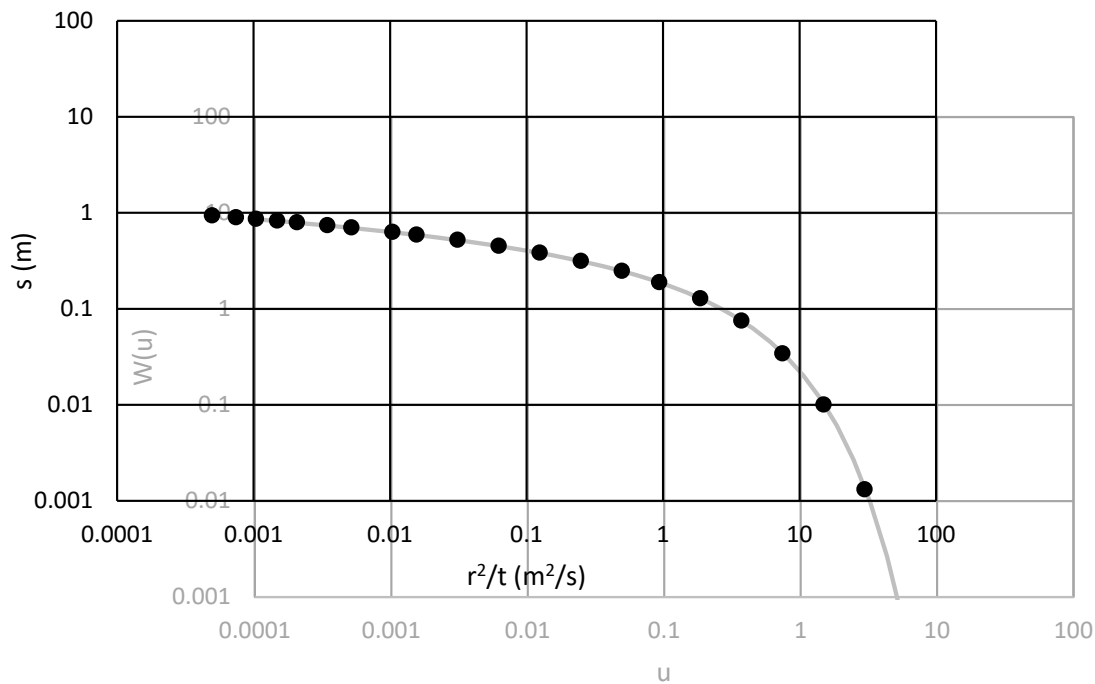

Figure 5: Curve matching for Question 5 (type curve in grey and experimental data in black).
A pumping test was conducted in a confined aquifer with a thickness of 6 m. The flow rate during the pumping test was 19 L/min. Figure 5 shows the curve matching for the Theis method for a piezometer 30 m from the pumping well.
- Using the Theis method and Figure 5, calculate the transmissivity (T) and storativity (S) of the aquifer (10 points).